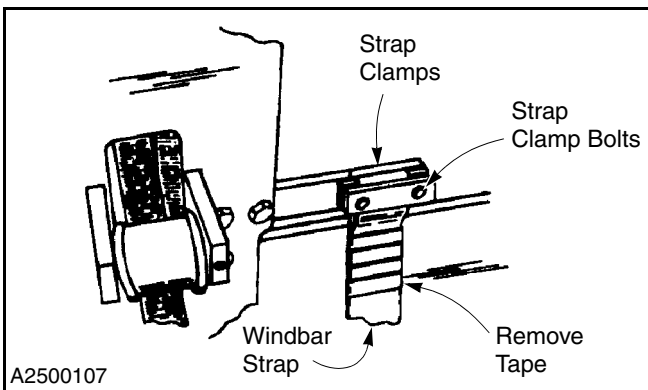

Figure 64
- To adjust the front windbar, loosen the front strap clamp bolts and move the windbar up and down, as required, by moving the strap up or down through the clamps. Retighten the strap clamp bolts when the windbar is in the correct position. (See Figure 64.)